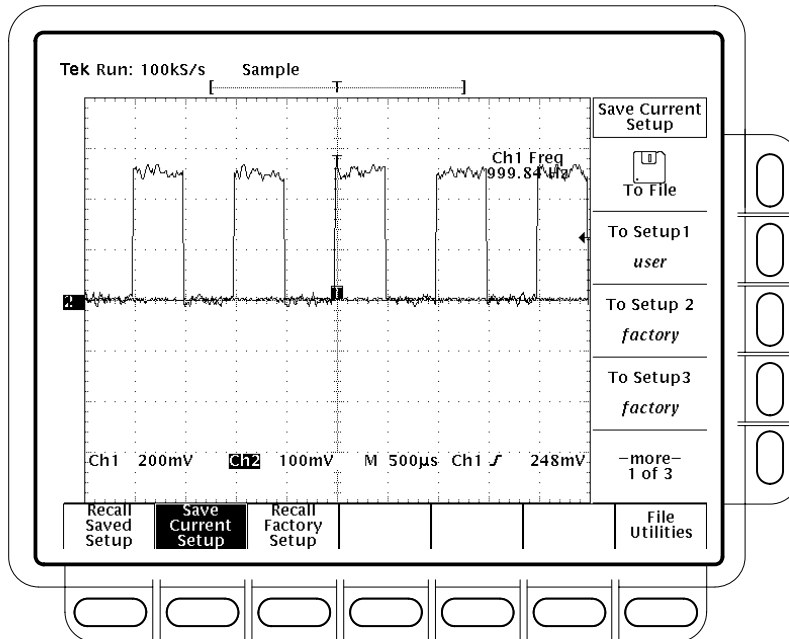

Figure 2–18: Save/Recall Setup Menu
1. Press **Snapshot** (main) to pop up a snapshot of all available single waveform measurements. (See Figure 2–17.)
6. Press **SAVE/RECALL SETUP** → **Save Current Setup** (main) to display the Setup main menu. (See Figure 2–18.)